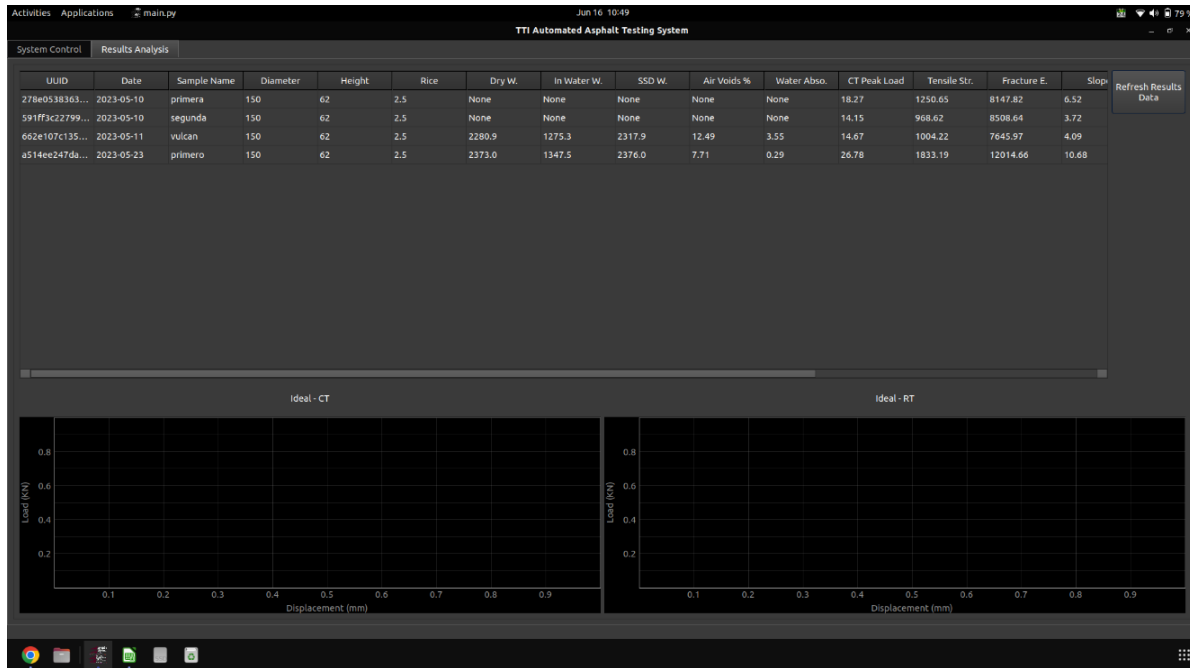

Figure 27. Presentation of Test Results
6. **Present Test Results.** Once the testing process is initiated using the AMAZE testing software, the system will automatically conduct tests on each specimen. As each specimen is tested, its results are immediately recorded and displayed in the results table, which can be found under the Results Analysis tab. Figure 27 shows the tab. In addition to the results being displayed on the Results Analysis tab, all of the raw data are saved to a folder named Result Folder under the AMAZE folder.